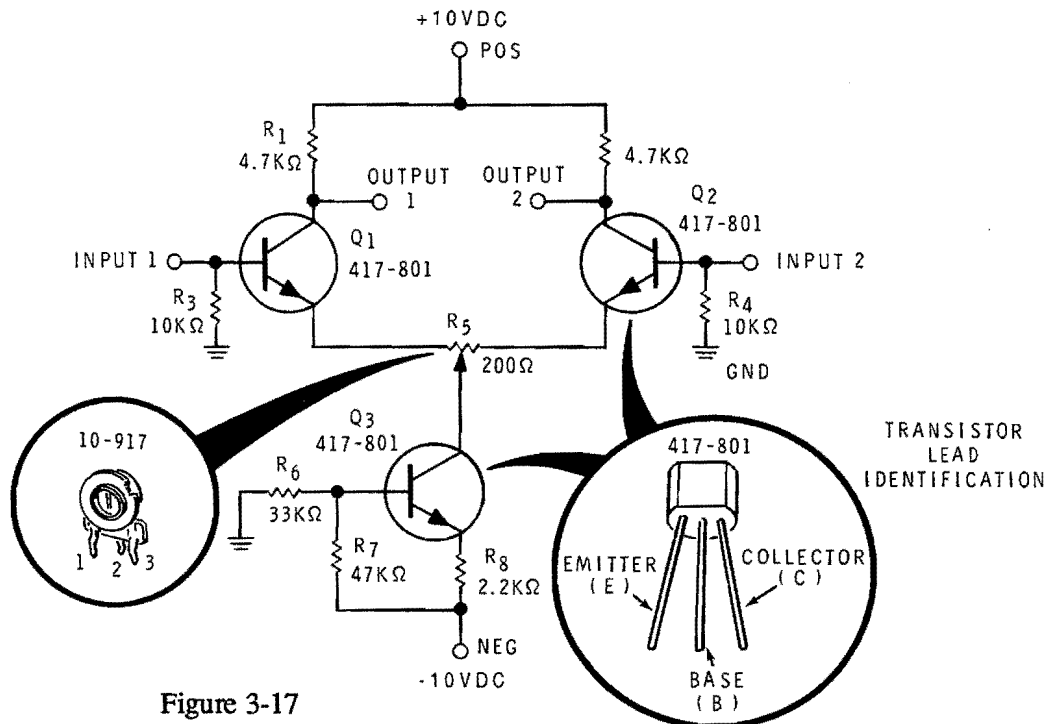

Figure 3-17
In this experiment, you will build a differential amplifier made from discrete components. Although the two transistors used in the amplifier are the same type, they are not matched. In particular, the  $V_{BE}$  values will be slightly different. This value is normally about 0.6 volts, but the exact value will vary from one transistor to the next. Unfortunately, the amplifier sees any mismatch in  $V_{BE}$  as a difference voltage which it must amplify. This will unbalance the amplifier, sending more current through one transistor and less through the other. To compensate for this, a potentiometer can be added to the emitter circuit as shown in Figure 3-17. The potentiometer is adjusted so that more resistance appears in the emitter circuit of the transistor with the lower value of  $V_{BE}$ . Thus, the extra  $V_{BE}$  drop in one transistor is exactly offset by the extra voltage drop across the emitter resistor in the other transistor. With no signal applied, the emitter resistor is adjusted until the collector voltages are equal. This also helps to compensate for differences in load resistor values caused by component tolerances. Read this entire procedure before performing this experiment.
2. Construct the circuit shown in Figure 3-17. Turn on the Trainer.